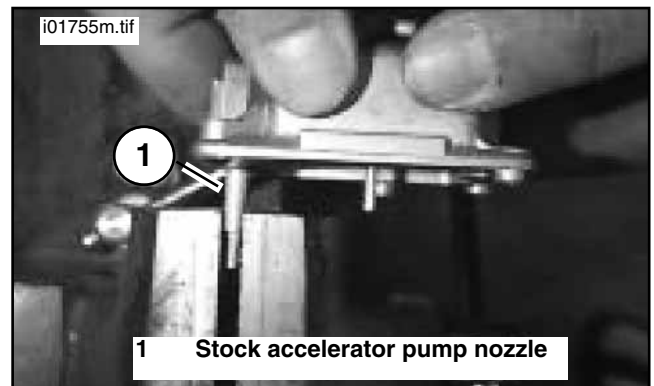

Figure 4. Stock Float Bowl and Accelerator Pump in Vise
1. See Figure 4 and Service Parts Illustration. With the carburetor float bowl removed, using a vise, clamp onto the stock accelerator pump nozzle. Remove it by twisting and pulling it out of the float bowl. Remove the stock